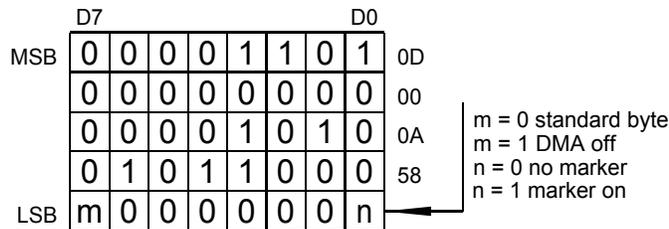

Figure 4-8. FM Modulating Waveform Data Structure
3. **When downloading waveforms using the DMA, only binary data can be loaded. The binary data structure is shown in Figure 4-8. Be careful not to send ASCII characters or SCPI commands that are not part of the waveform data because it will confuse the generator and will cause errors.**
2. Convert the result from 1 above to 4-byte (32-bit) binary word and union with an 8-bit control word as shown in Figure 4-8.
five 8-bit words before it can be used by the 8026 as FM modulating waveform data. Figure 4-8 shows how to prepare the 40-bit word for the FM modulating waveform.